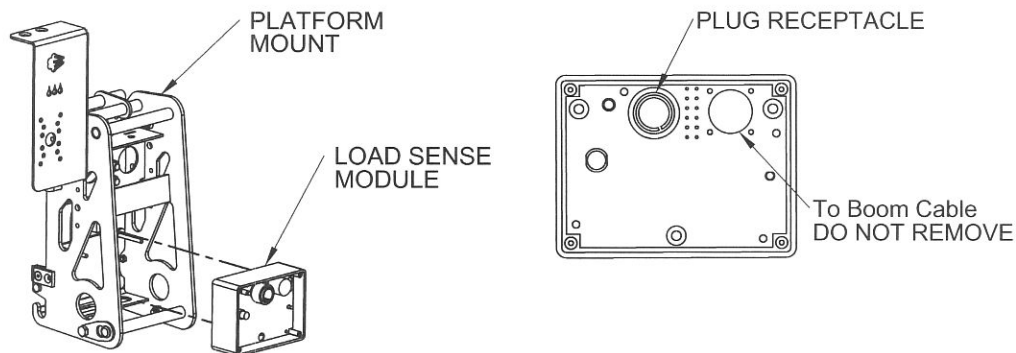

Figure 7-2. Disconnect Plug from Load Sense Module
- Disconnect the platform (upper) control box's **PLUG**; from the **LOAD SENSE MODULE**, located on the **PLATFORM MOUNT**. Refer to Figure 7-2